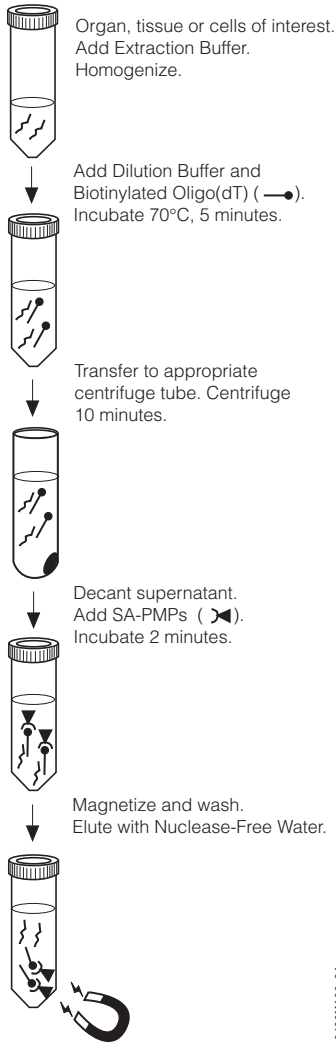

Figure 1. Schematic diagram of the PolyATtract® System 1000 Protocol.
The PolyAtract[®] System 1000 forgoes lengthy ethanol precipitation steps, phenol:chloroform extractions, overnight ultracentrifugation through cesium chloride gradients and lithium chloride (LiCl) precipitations (Figure 1). Increased mRNA yields are obtained because losses that occur during the organic extractions and precipitations are eliminated. The isolated mRNA is suitable for all molecular biology applications, including in vitro translation,
The PolyATtract® System 1000 combines the disruptive and protective properties of guanidine thiocyanate and β -mercaptoethanol to inactivate ribonucleases present in cell extracts (1). Guanidine thiocyanate (GTC), in association with SDS, acts to disrupt nucleoprotein complexes, allowing RNA to be released into solution and isolated free of protein. The final GTC concentration allows hybridization of the poly(A) sequence of most mature eukaryotic mRNA species to the synthetic Biotinylated Oligo(dT) Probe, yet maintains complete inhibition of cellular RNases. Hybridization occurs during the brief centrifugation step that removes cellular debris and precipitated proteins. After centrifugation, the Biotinylated Oligo(dT):mRNA hybrids are captured with Streptavidin MagneSphere® Paramagnetic Particles (SA-PMPs). The particles are washed at high stringency, and purified mRNA is eluted by the simple addition of Nuclease-Free Water (Cat.# P1193). This procedure yields an essentially pure fraction of mature mRNA after only a single round of magnetic separation, without organic extractions or precipitations. A summary of the procedure is provided in Figure 1.